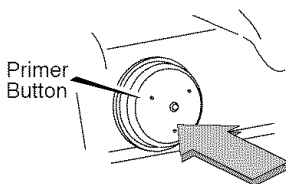

Figure 10
4. Push the **primer button** as specified below. Remove finger from primer button between pushes (see Figure 10).